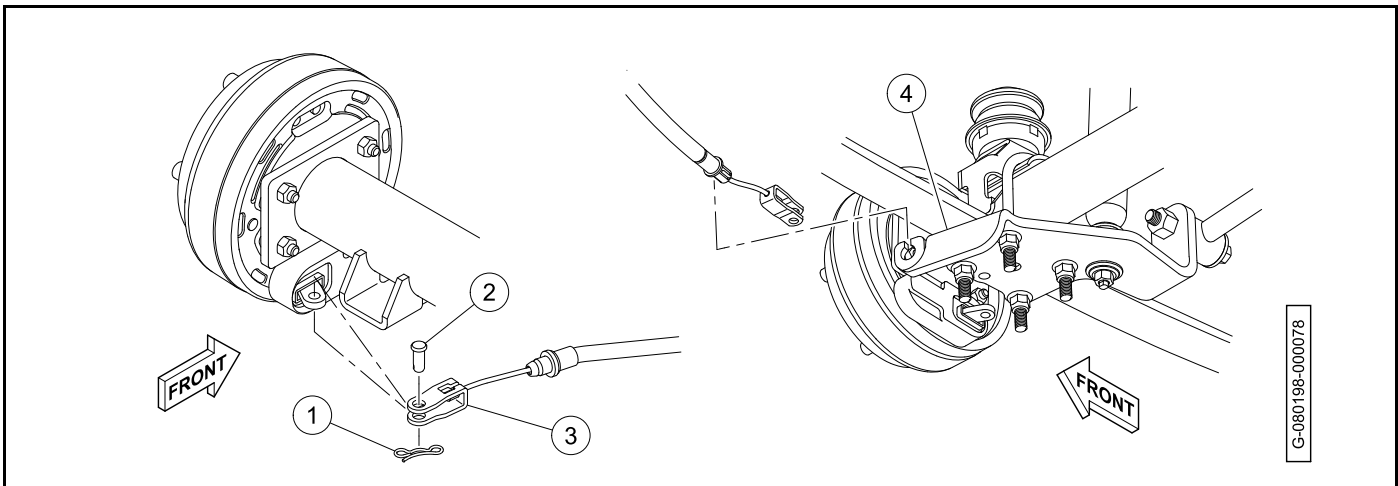

Figure 9-13
6. Remove the bow tie locking pin (1) and the clevis pin (2) (**Figure 9-13**).
6. Remove the bow tie locking pin (1) and the clevis pin (2) (Figure 9-13, Page 9-12).